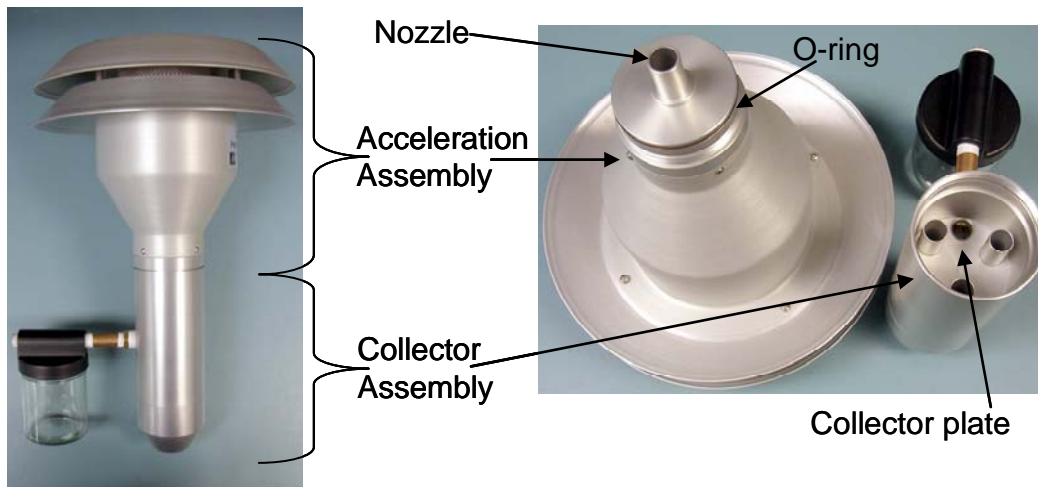

Figure 10-2. The PM10 inlet has two primary components, the Acceleration Assembly and the Collector Assembly.
The PM10 inlet has two primary components, the Acceleration Assembly and the Collector Assembly (**Figure 10-2**). Thermo Scientific recommends cleaning both of these assemblies monthly.
- Unscrew the Collector Assembly (Figure 10-2 bottom portion of inlet) from Acceleration Assembly (Figure 10-2 top portion of inlet) and set it aside.